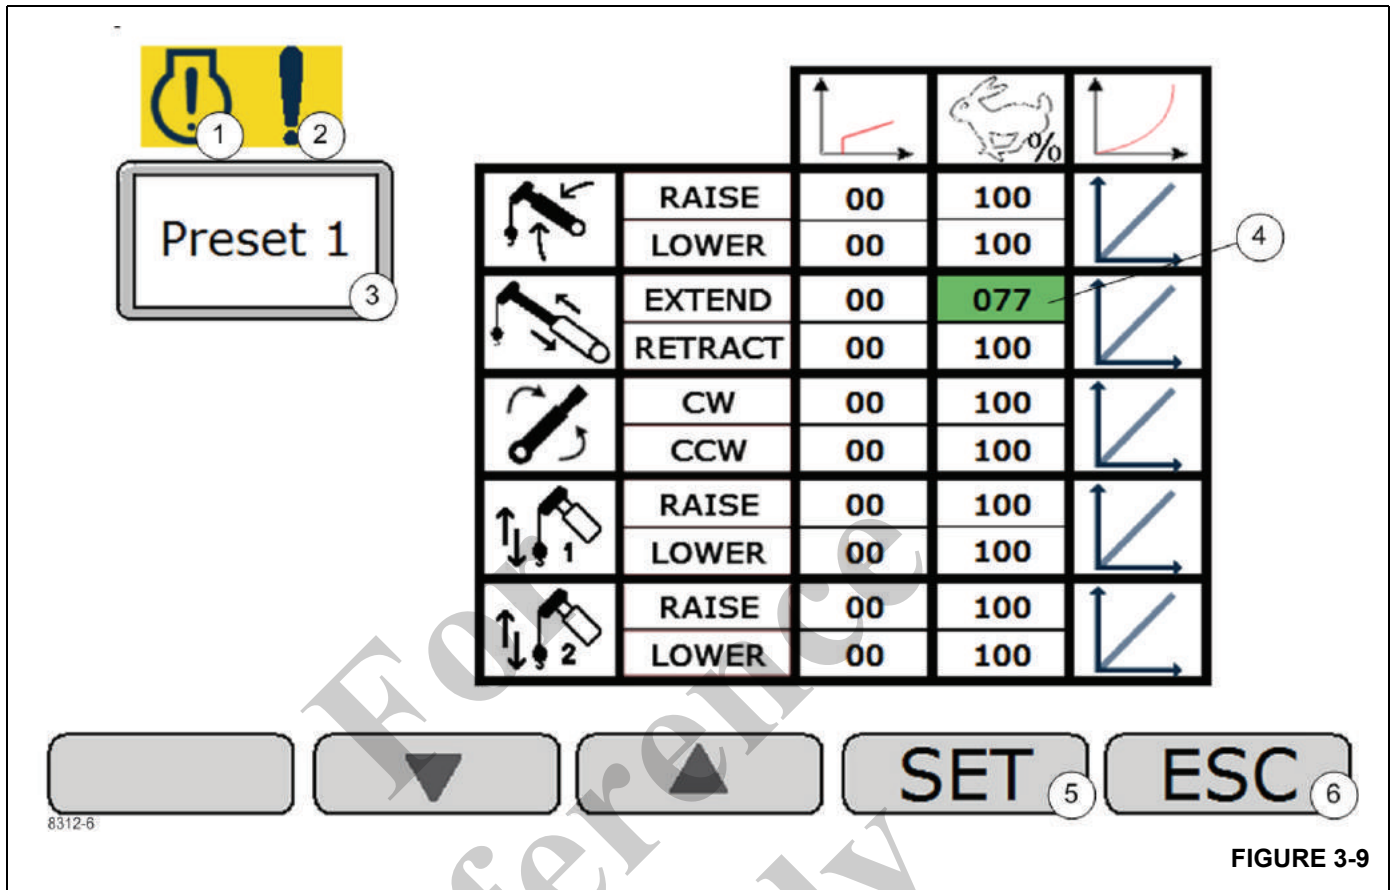

FIGURE 3-9
Modify Presets Screen 3 (Figure 3-9)
Engine Fault Active Indicator (1) (Figure 3-9)